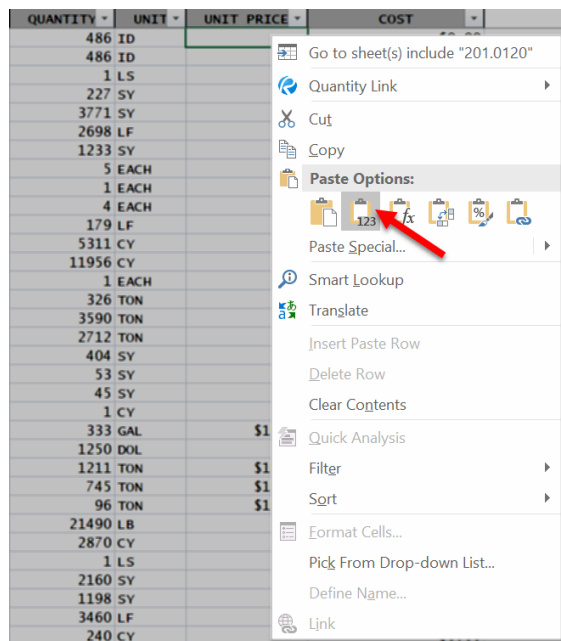

Figure 11.9 “Paste Values” command.
4. **Right-click > Paste Values** (Figure 11.9).